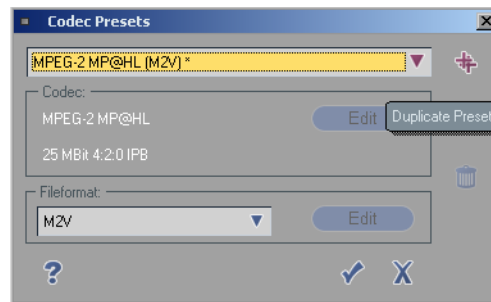

Figure 3-32: Codec Presets
- Select the “MPEG-2 MP@HL (M2V)” codec as starting point. Click the two plus symbols on the right to duplicate this preset (see Figure 3-32 on page 35).
3. Select the “MPEG-2 MP@HL (M2V)” codec as starting point. Click the two plus symbols on the right to duplicate this preset (see Figure 3-32 on page 35). In the Fileformat pull-down list box select MXF.